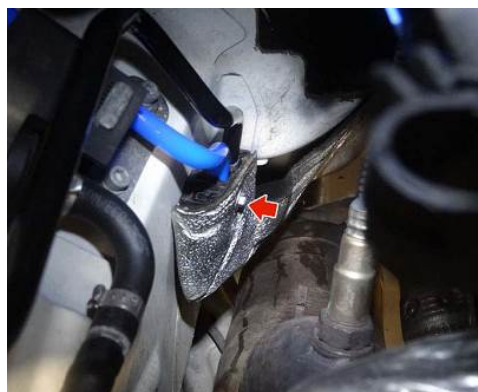

Fig.14
9. Remove the screw on the heat shield between the engine and the r/s dome. (Fig.14)